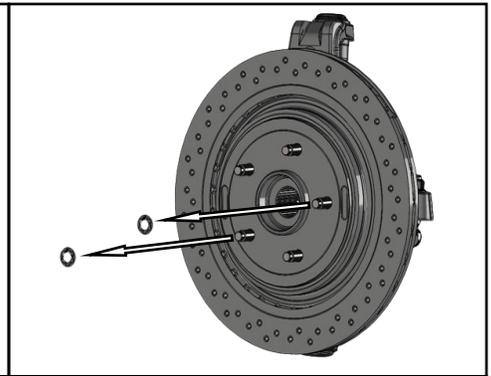

FIGURE 3. REMOVAL OF BRAKE ROTOR RETAINING NUTS
5. Remove the sheet metal nuts retaining the existing rotor to the hub (Figure 3). These will **not** be re-used to secure the new ES+ rotors to the hub.